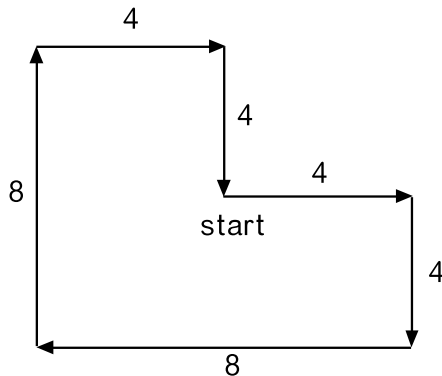

Figure 7.
- Motion path : see Figure 7. One-step movement requires 4 minutes (total of 32 steps : 128 minutes)